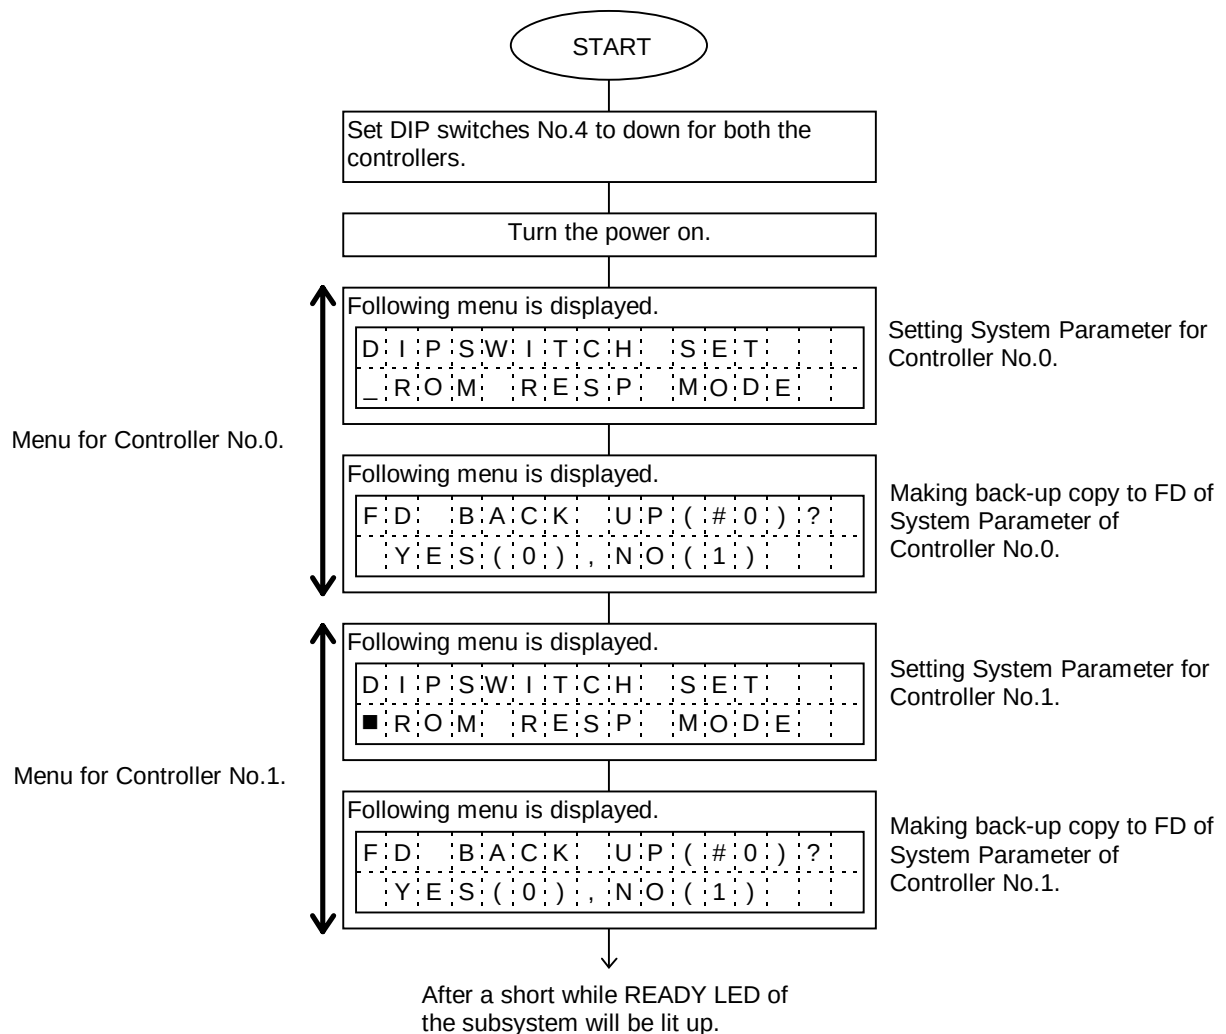

Figure 5.1.2 DIP Switch, shifting to Dual System has not started yet.
- (2) Perform as the procedure shown below.
(3) Set DIP switch No.4 as Figure 5.1.2. (Shifting to Dual System has not started yet.)